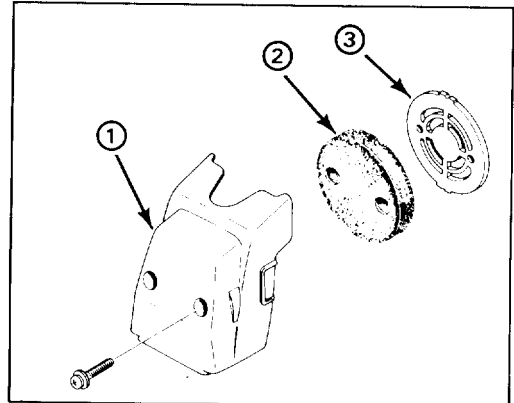

Figure 17
## SERVICING AIR CLEANER (Fig. 17)
6. Reinstall air cleaner components as shown in Figure 17.
5. Reinstall air cleaner cover and air cleaner components to trimmer. See Servicing Air Cleaner, Figure 17 for component sequence.